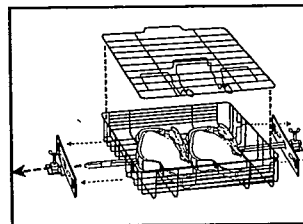

Figure 8
5. Locate looped wires on opposite sides of Adjustable Basket. Place an End Bracket over each set of looped wires (on both sides of Basket). The Brackets have cut-outs which fit over the looped wires. See Figure 8.
6. Carefully slide Rotisserie Bar (pointed end first) through square hole in End Bracket, through Basket, and through opposite End Bracket. See Figure 8.